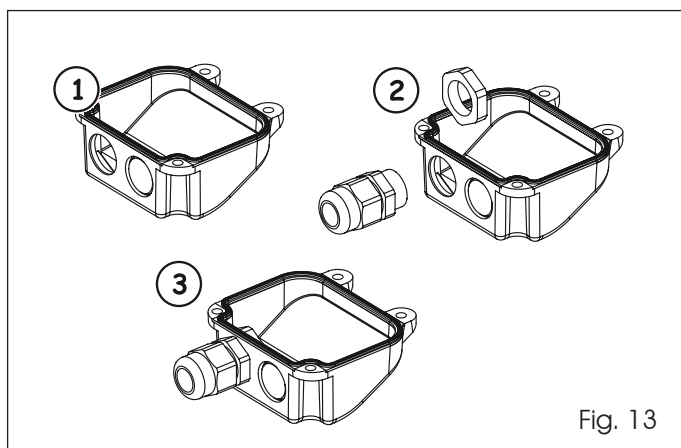

Fig. 13
1. Open one of the pre-drilled holes in the terminal block cover, see Fig.13.